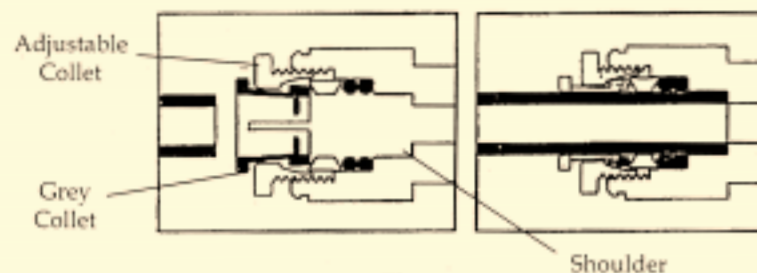

Figure 1
3. While making sure the adjustable collet is loose, install the elbow and the new filter onto the condenser outlet by pushing the elbow straight into the condenser outlet tube until it bottoms on the shoulder (approximately 1"). See Figure 1.